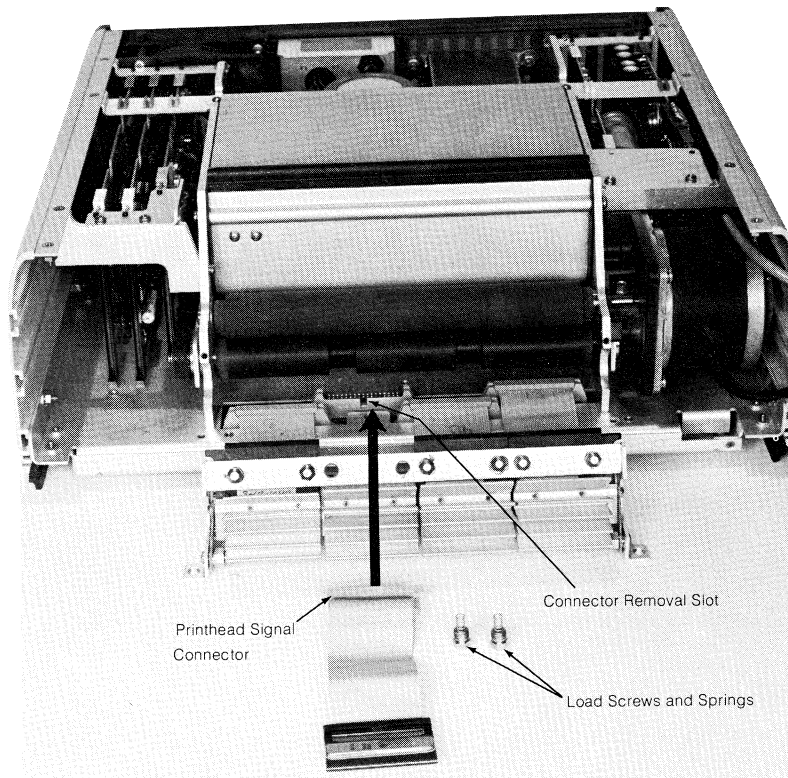

Figure 3-4. Removing a Head
4. Loosen the two load screws which are associated with the defective print head. If the load screws are removed, take care not to lose the spring inside each screw (see Figure 3-4).